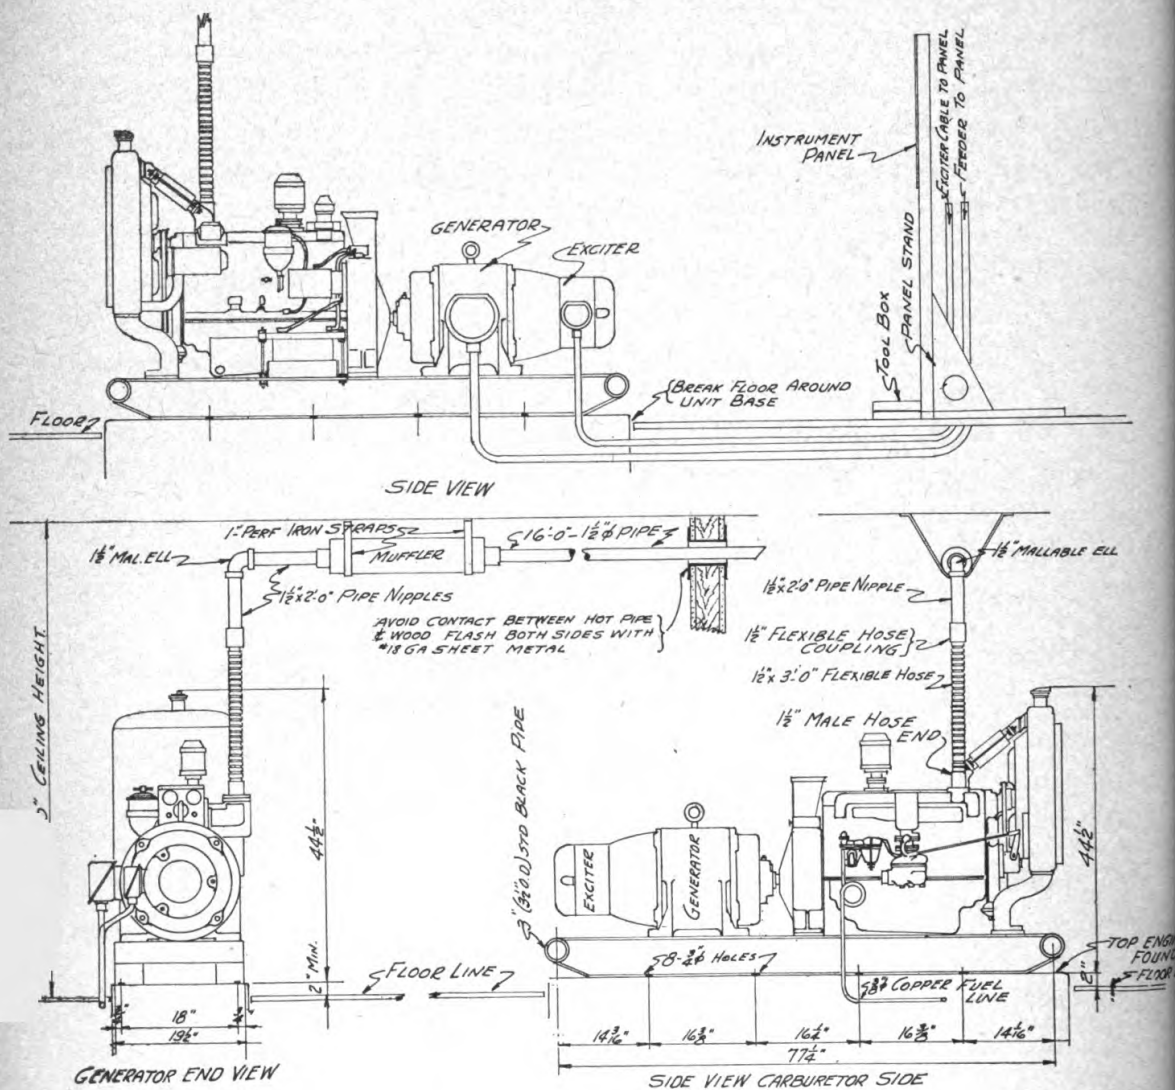

Figure 6. Typical installation of unit in building.
(1) **SPACE REQUIRED** (fig. 6). Locate the power unit so that at least 3 feet of space is provided between the nearest wall and engine. Less space will cramp the personnel performing maintenance on the wall side of the unit. Arrange the unit so that the radiator front is near a wall, thus making possible the use of the canvas duct, one end of which is attached to the angle frame on the radiator front, and the other end to a suitable opening in the wall. Avoid any bends. The ceiling height should be about 8 feet to permit the proper installation of the exhaust pipe and muffler.
(2) **FOUNDATION.** Construct a concrete or timber base extending about 2 inches above the floor level. Shock absorbing material may be used between the skid base and the foundation. The power unit must be level. Place the foundation bolts at the required points as shown in figure 6. Do not tighten the bolts until the cement is hard.
(4) **FUEL SYSTEM.** Connect the 6-inch length of the flexible gasoline tube to the fuel pump inlet (fig. 6). Connect the $\frac{3}{8}$ -inch copper tubing from the end of the flexible tube to the gas tank which is located at a point not more than 20 feet away from the power unit. Avoid using more than the 20 feet of copper tubing supplied with the unit. The fuel pump may not be able to pump the fuel with sufficient pressure if the line is longer than 20 feet, or if the fuel tank is too far below the level of the pump. Install the fuel tank as far from the exhaust outlet as possible. Be sure the tank is vented properly by maintaining a hole in the filler cap or by providing a vent pipe. Keep the gas line at least 1 inch from the bottom of the tank.